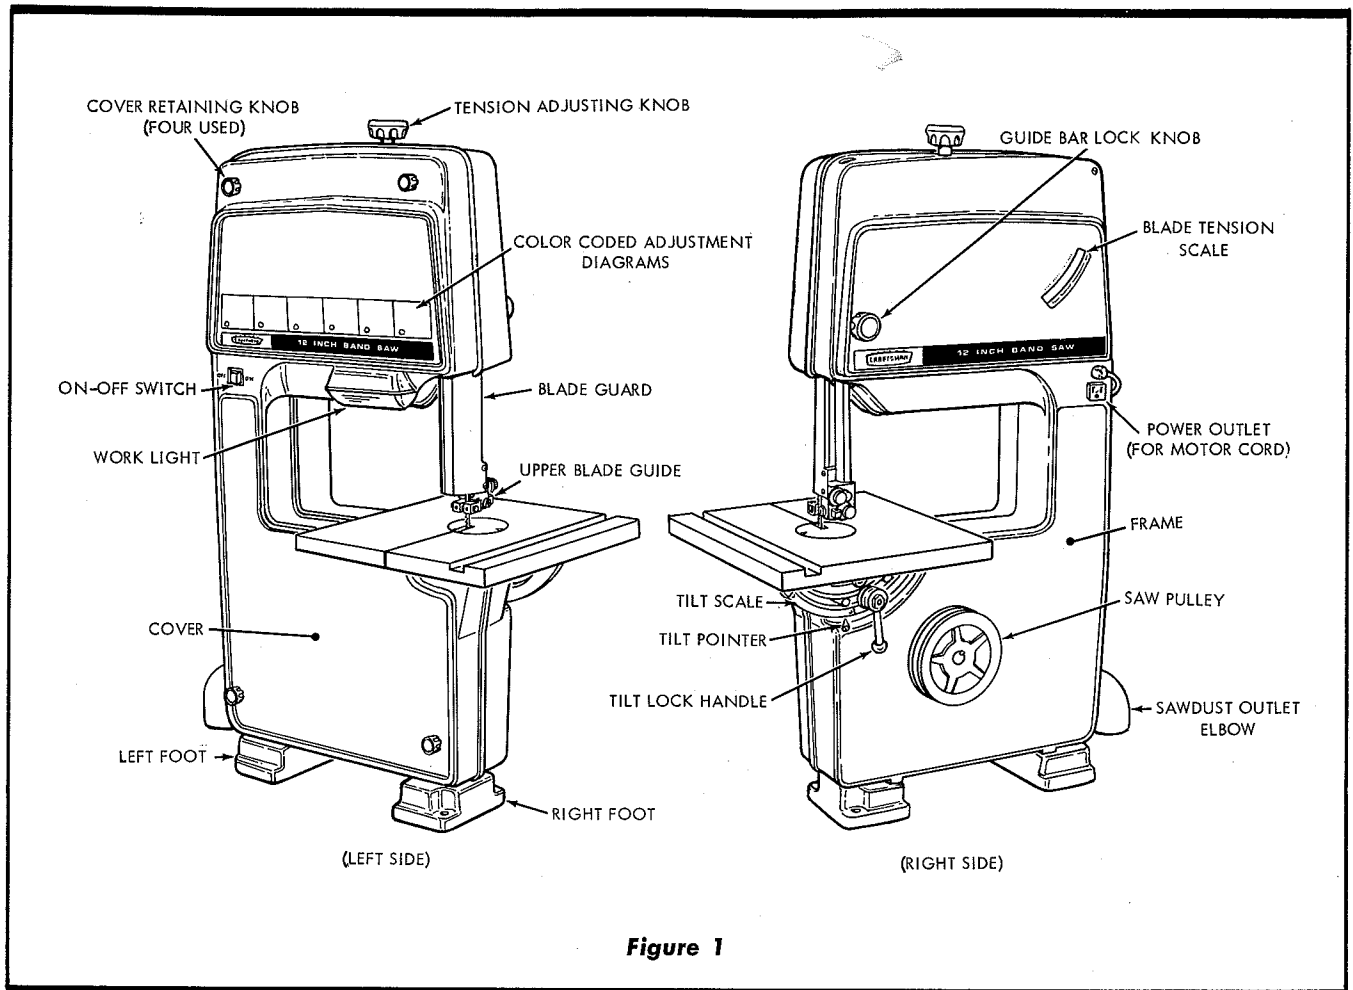

Figure 1
1. **BAND SAW WIRING.** A single three-wire power cord emerges from the saw frame through a molded strain relief. (See figure 1.) Mounted in the saw frame are three components as follows: (See figure 2.)
1. Remove the four cover retaining knobs and slide the cover carefully off the studs. (See figure 1.)
1. **BLADE TENSION.** Correct blade tension is accomplished by rotating the tension adjusting knob (figure 1) while watching the blade tension scale on right-hand side of saw. Markings on the scale are "1/2", "3/8", "1/4", "1/8", and "SANDING". These indications represent the width of the blade being used. Thus when using a 1/2-inch blade, the pointer should be set to "1/2", a 1/4-inch blade to "1/4", etc. When using a sanding